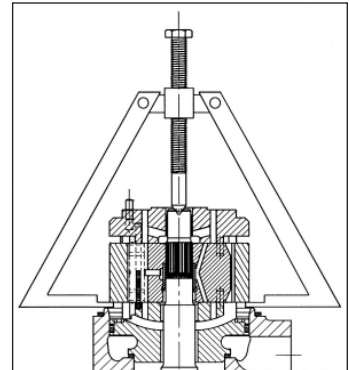

Figure 43
4. Disassemble the cartridge/front cap with an extractor (**Fig. 43**).